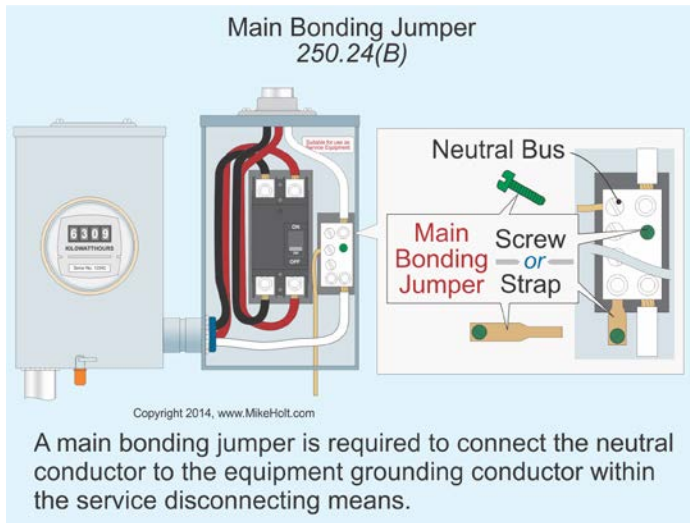

Figure 250-49
(B) Main Bonding Jumper. A main bonding jumper [250.28] is required to connect the neutral conductor to the equipment grounding conductor within the service disconnecting means. Figures 250-49 and 250-50